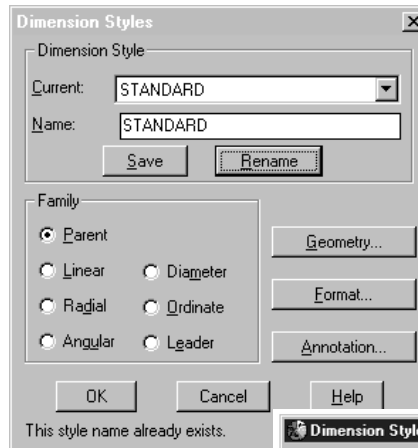
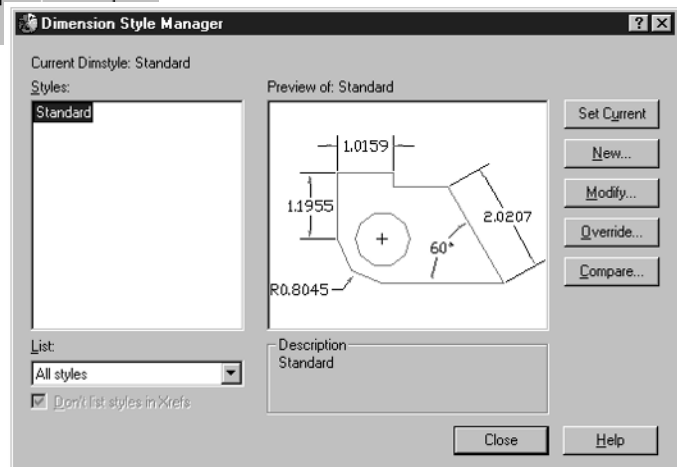

Figure 1-21
Figure 1-22
1. Select **Dimension Style** from the Format pull-down menu. A dialog box will come up that allows you to change dimension style settings. The LT 98 dialog box is shown in Figure 1-21. The LT 2000/2000i dialog box is shown in Figure 1-22.